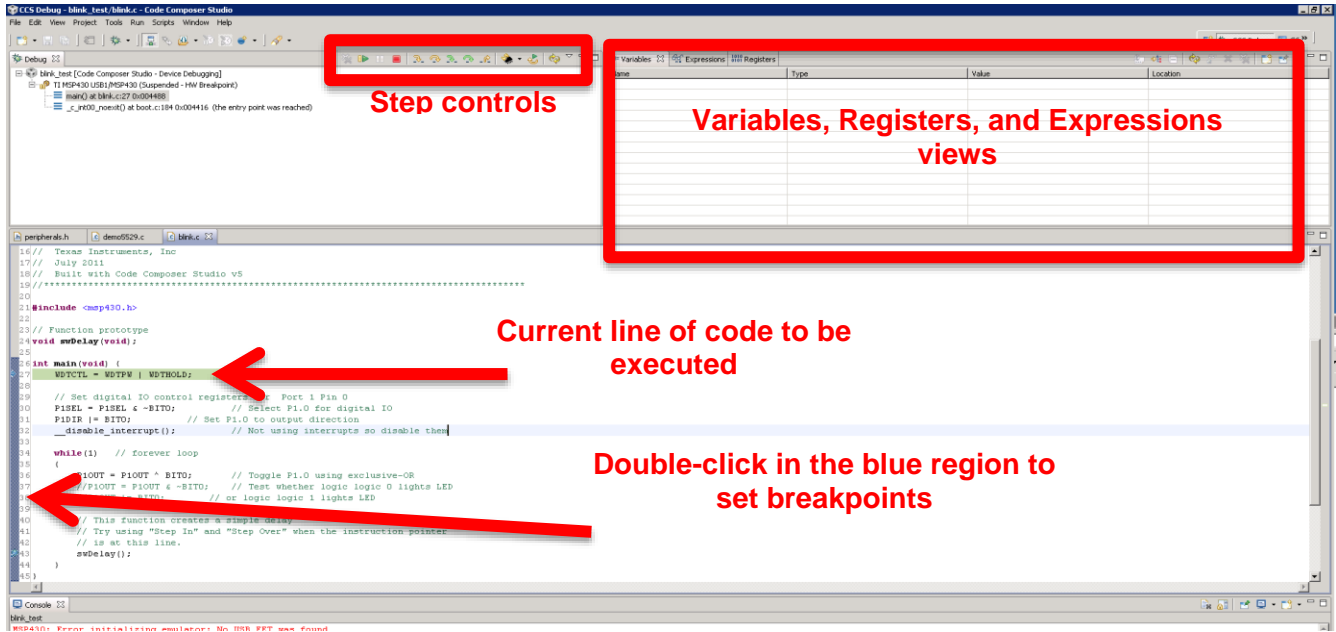

Figure 5: CCS Debug Perspective
13. Now that the code has been compiled, it's time to load it onto your board to run it. Make sure your board is connected to the computer and click on the debug icon () in the toolbar to enter the debugger. This will make CCS connect to the board, load your program onto the MSP430, and start the debugger at the beginning of the program. If this is the first time starting the debugger, this may also take a while. During the process, if you get a pop-up window about with MSP430 Ultra Low Power (ULP) warnings, you can dismiss it. If the process is successful, CCS should switch to *Debug Perspective*, which looks like Figure 5. If you encountered any errors in the process, ask the course staff for help.
14. The Debug perspective has many useful and important features for observing and controlling how your program executes. However, at present, we don't want to use any of these—we just want to run the program! In the toolbar labeled “Step controls” in Figure 5, click the green arrow () to tell your program to run. The Red led on the small board should be blinking! Blinking lights are cool. **Demonstrate your first embedded programming success to the course staff for signoff.** Optionally, take a video and send it to your mom to show her what you do at school.
17. We can observe the output register P1OUT changing state in the debugger. In the top-right corner of the Debug perspective (see Figure 5), we can view the state of variables and registers in our program. In `blink.c`, there are no variables, so the variables pane is pretty boring. Instead, switch to the **Registers** tab and find the register P1OUT listed under the header “Port1_2”, as shown in X. You can see the value of the entire register next to P1OUT, or expand it to view the values of each bit (eg. P1OUT5 shows the value of bit 5 of P1OUT).